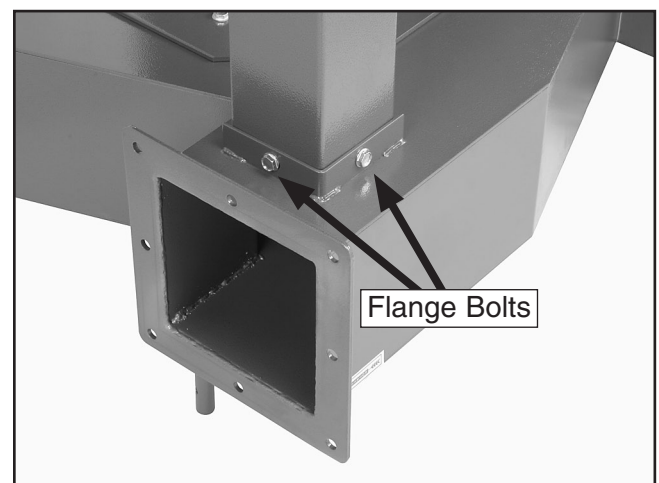

Figure 7. Supporting leg mounted to main housing.
4. Place the end of the supporting leg with the threaded holes on the inside of the housing bracket (see **Figure 7**).